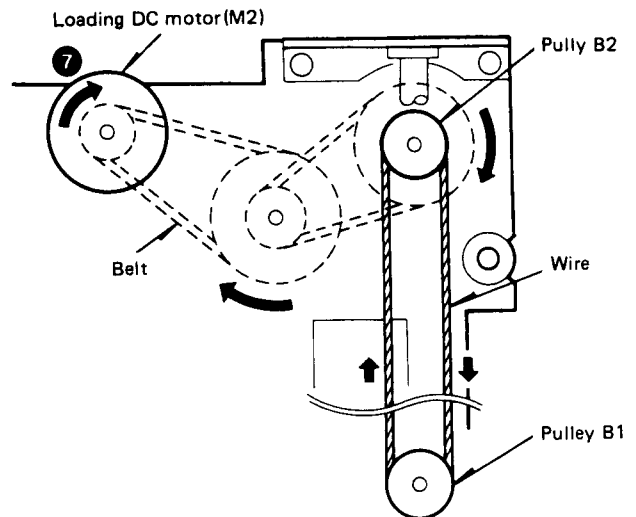

Fig. 10 Tray OPEN operation (3)
Subsequently, S1 (clamber UP switch) turns ON by the groove at the upper side of the main gear, and the loading DC motor (M2) rotates in the direction of an arrow (7) to pull the wire via the belt (Figure 10).